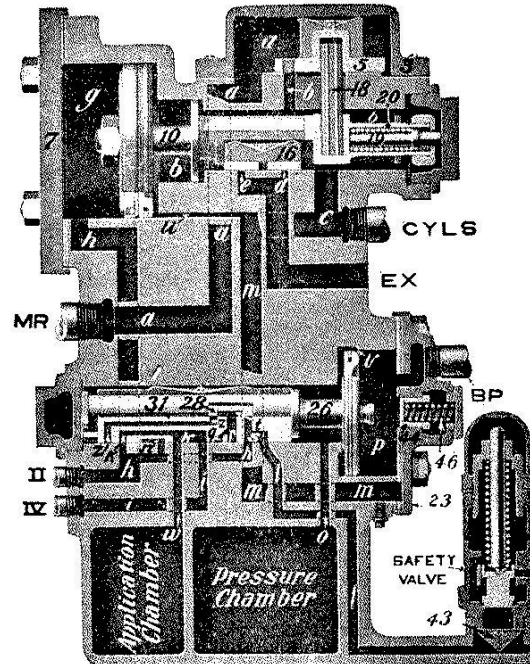

Fig. 12: Independent Application.
A. When the independent brake valve handle is moved to application position, air is admitted from the reducing valve pipe through the application cylinder pipe to the application chamber and cylinder. Pressure forming in the application cylinder will move the application piston 10 to the right, carrying with it the exhaust valve 16 and the application valve 5, closing the exhaust port and opening the supply port, admitting main reservoir air from chamber "a" to the brake cylinders (see Fig. 12) until the